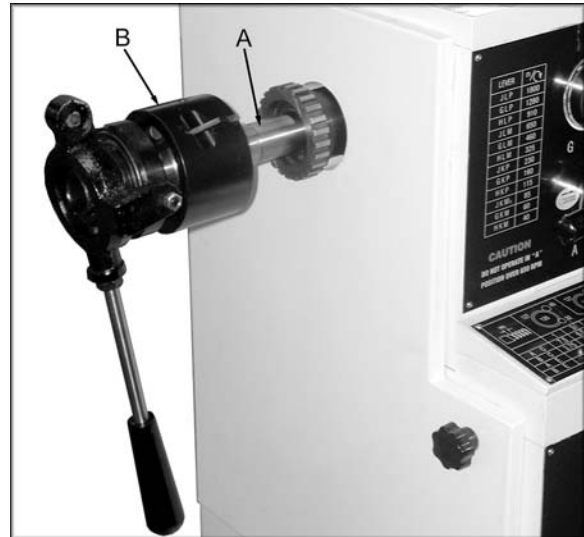

Figure 3
9. Thread the drawbar (A, Figure 3) into the collet closer assembly (B, Figure 3) until it is flush
13. Screw the collet closer into collet by releasing collet closer assembly lock and turning collet closer outer flange (B, Figure 3) clockwise. Note: it is necessary to push collet in while turning closer body to engage draw bar with the collet. Continue turning until the collet taper is seated, but not tensioned in the taper.
21. Place a cutter or material into the collet so you can adjust the outward flange (B, Figure 3). Turn the outward flange until you can move the lever and it "pops" into place locking the cutter or material into the collet.